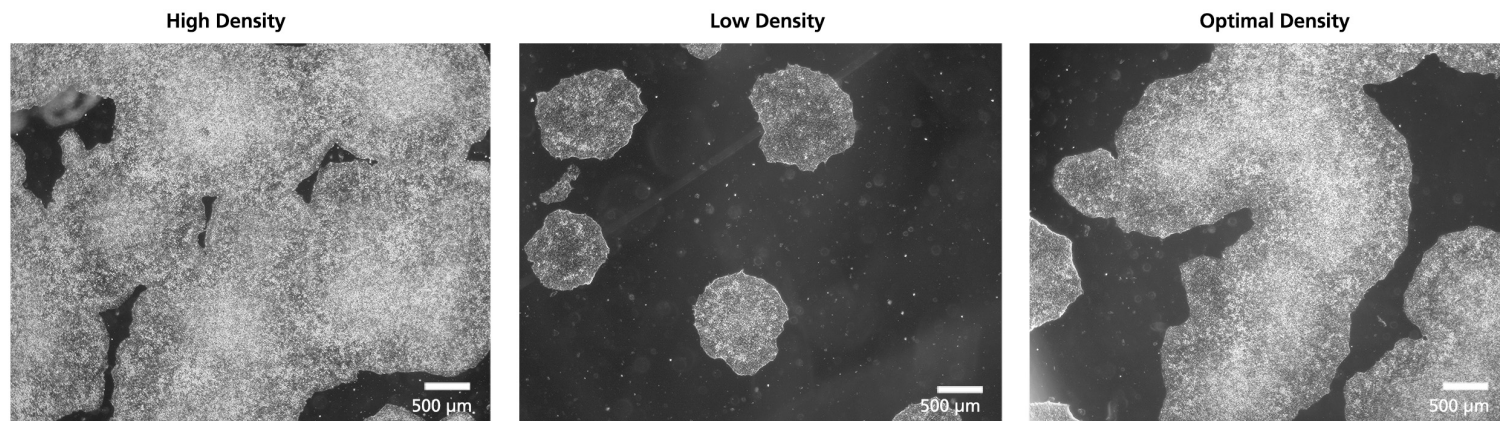

Figure 2. SCTi003-A-3 hiPSCs Demonstrate Varying Colony Densities When Seeded at a Range of Starting Concentrations
14. On Day 6 - 8, select the well with optimal hiPSC colony density for passaging (Figure 2). The culture should consist of healthy hiPSC colonies that are medium to large, compact, and have centers that are dense compared to their edges.